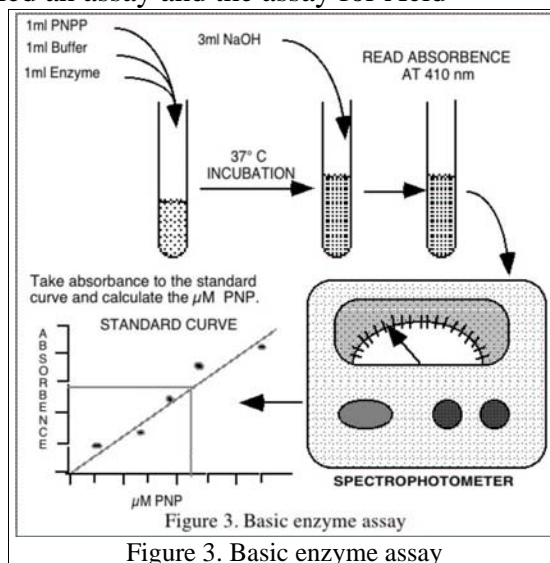

Figure 3. Basic enzyme assay
The laboratory procedure for studying an enzyme is called an assay and the assay for Acid Phosphatase is diagrammed in Figure 3. Note the key elements: substrate; buffer; temperature; time; and concentration of product. The fact that PNP (yellow product) absorbs strongly in 410 nm of light, allows for accurate measurement with the spectrophotometer and subsequent estimation of concentration on a standard curve.
- In *Excel* construct a Standard Curve Graph by plotting absorbance (X axis) against the amount of PNP present (Y axis). See Figure 3.